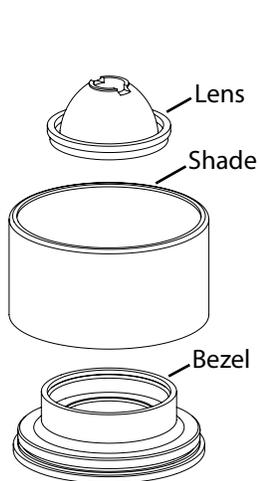
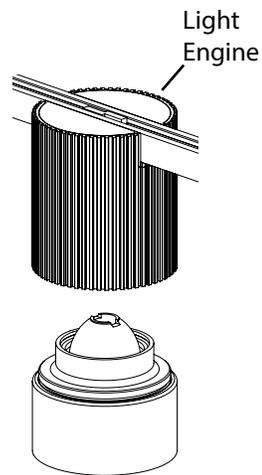

Fig. 33
Fig. 34
1. Align the **Lens**, **Shade**, and **Bezel** with each other (Fig. 33) then preassemble them together (Fig. 34).